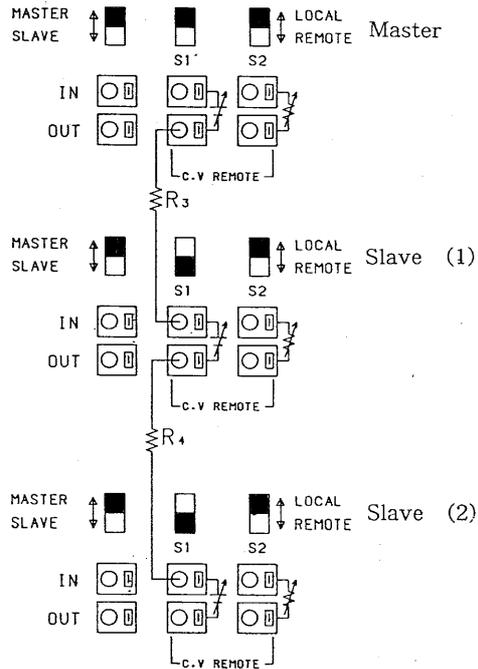

Figure 19
3) Set the CV REMOTE S1 switch on slave machines to REMOTE. As shown in Figure 19, connect the external fixed resistance.